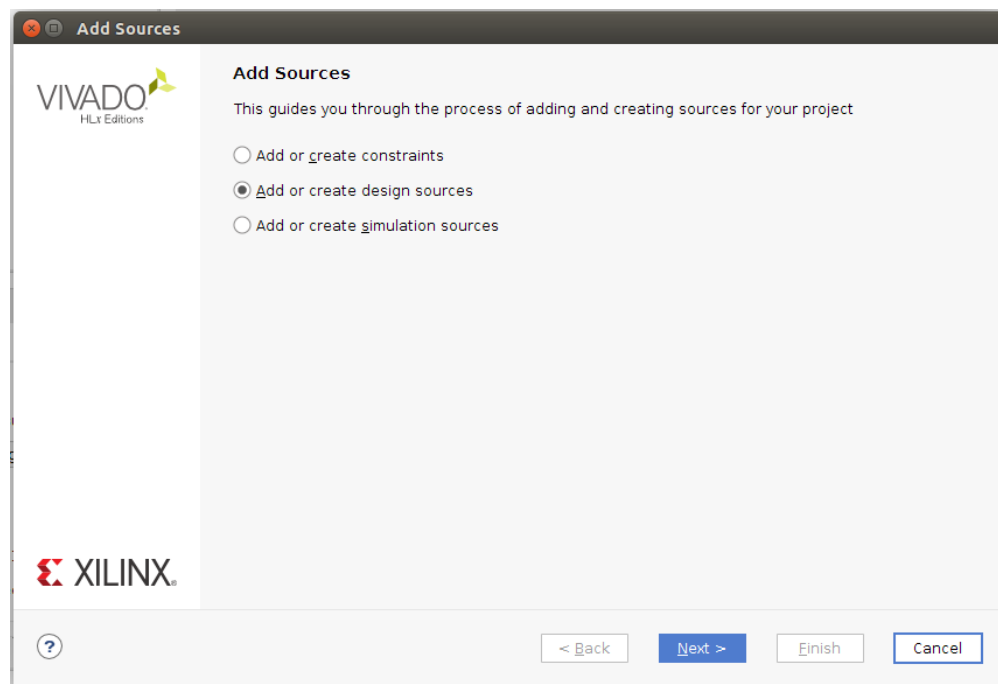

Figure 11: Open Hardware Target
2. Select Add or create design sources on the window that opens and click Next (Figure 11).